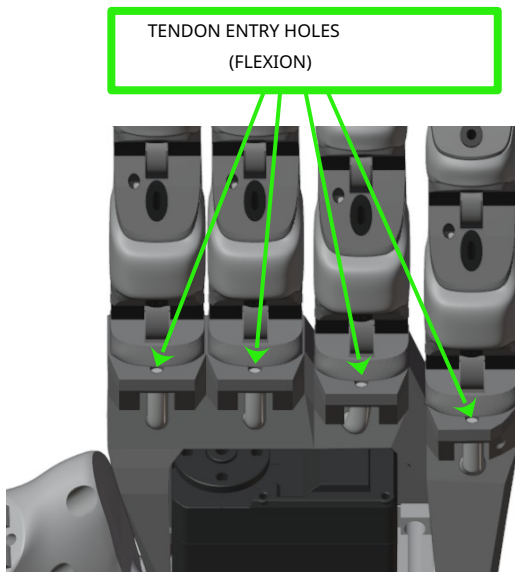
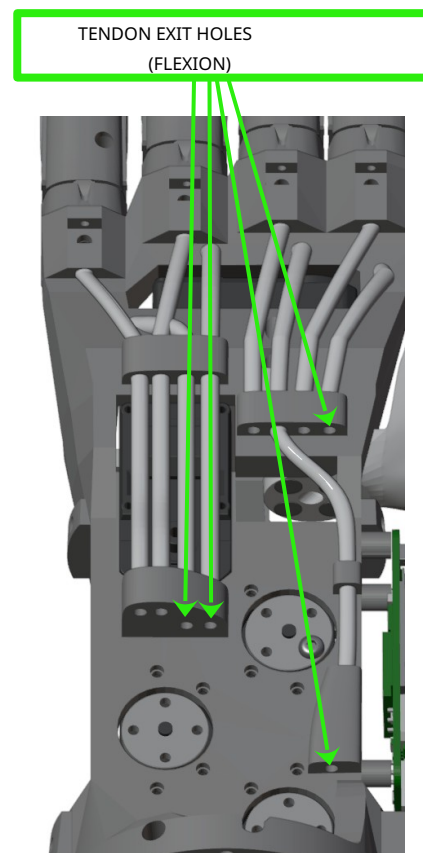
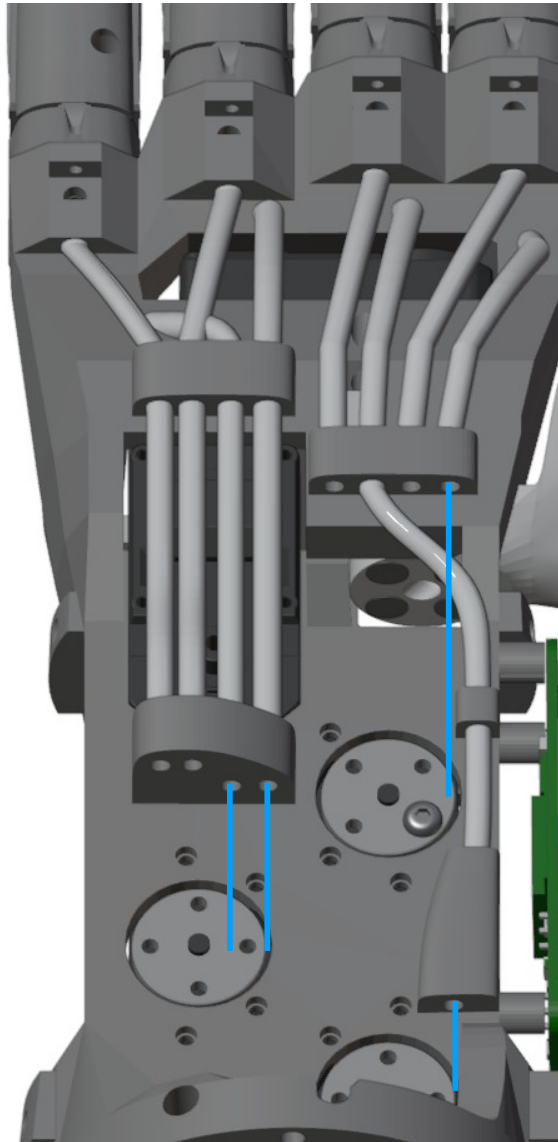

Figure 5.43: Tendon entry holes (flexion)
Figure 5.42: Tendon exit holes (flexion)
Figure 5.44: Flexion extremity of the tendons exiting the bowden tubes
1. On the front part of the skeleton, insert the two ends of the nylon needle into the entry hole in front of the finger slot (figure 5.43) and push them into the PTFE tube below, making them come out of the exit hole on the back part of the skeleton (figure 5.42)
2. Insert the flexion end of the tendon into the loop of the nylon needle that remained outside the entry hole (figure 5.43) and pull the ends of the nylon needle from the other end of the bowden tube, until the entire tendon comes out of the exit hole (figure 5.44).